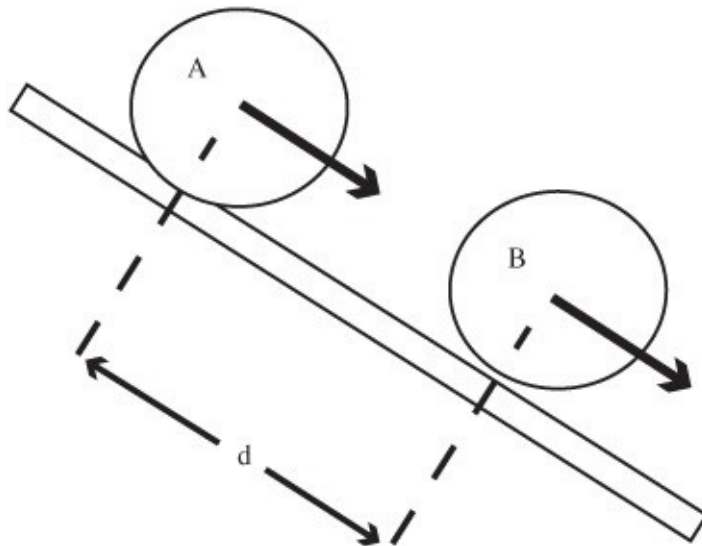

Figure 60-1 *How will the distance, d , change as the can roll down the slope?*
3. Hold the two cans of mushroom soup on the incline with a distance of about 10 cm between them, as shown in Figure 60-1. Call the top can A and the bottom can B.